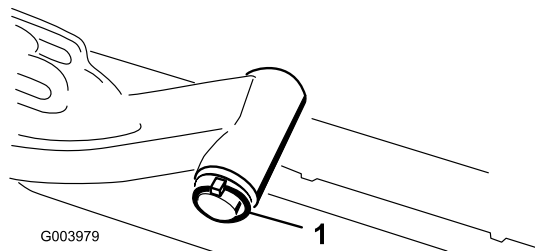

Figure 18
- A. Remove the lynch pin and washer securing the lift-arm pivot shaft to the lift arm and slide the lift-arm pivot shaft out of the lift arm (Figure 18).
- C. Insert the lift-arm shaft into the lift arm and secure it with the washer and the lynch pin (Figure 18).